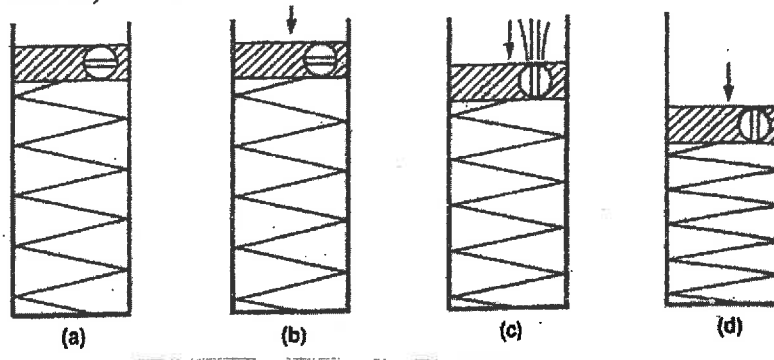

Figure 2
- (a) Explain one-dimensional consolidation behavior with particular reference to the effective stress principle using the spring analogy model shown in **Figure 2** given below. (5 marks)